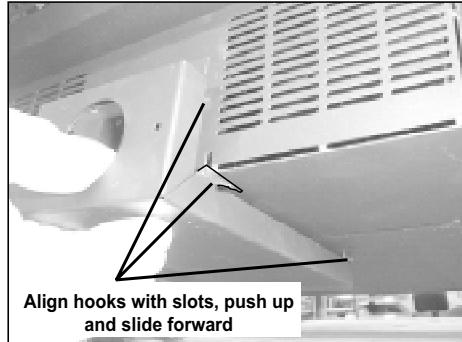

Figure 17.2
- Align hooks in air channel with slots in convection blower mount and ash box, **Figure 17.2**. Push up and slide forward.